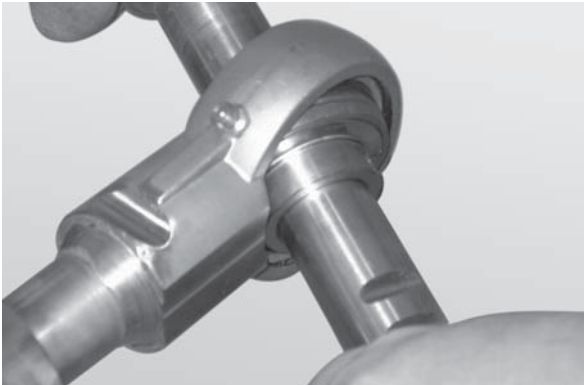

Figure 83
3. Insert the rod end of another bearing shaft through the bearing orifice (Figure 83).